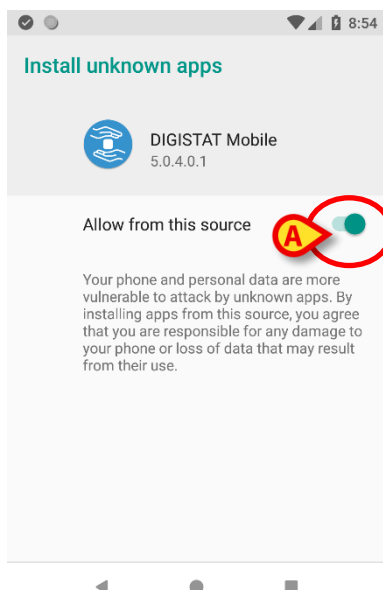

Fig 201
The following screen will be shown (Fig 201).
- Toggle the switch in Fig 201 A with the label “Allow from this source” and then press the **“Back”** button on the device (it’s a system button and it’s not described in this User Manual).